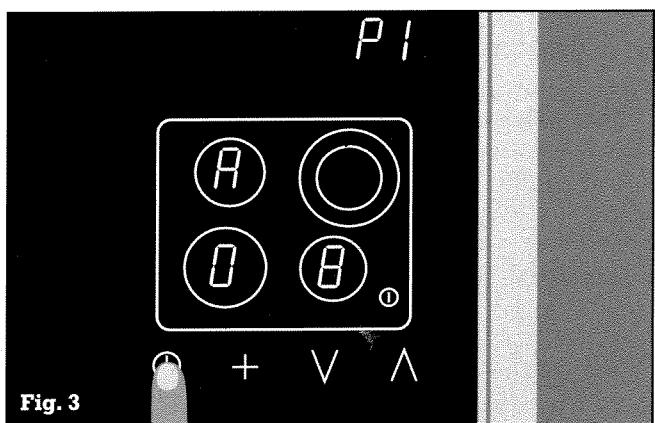

Fig. 3
- Store the required value by touching the symbol \odot . You will hear a signal and $P1$ lights constantly (fig. 3).